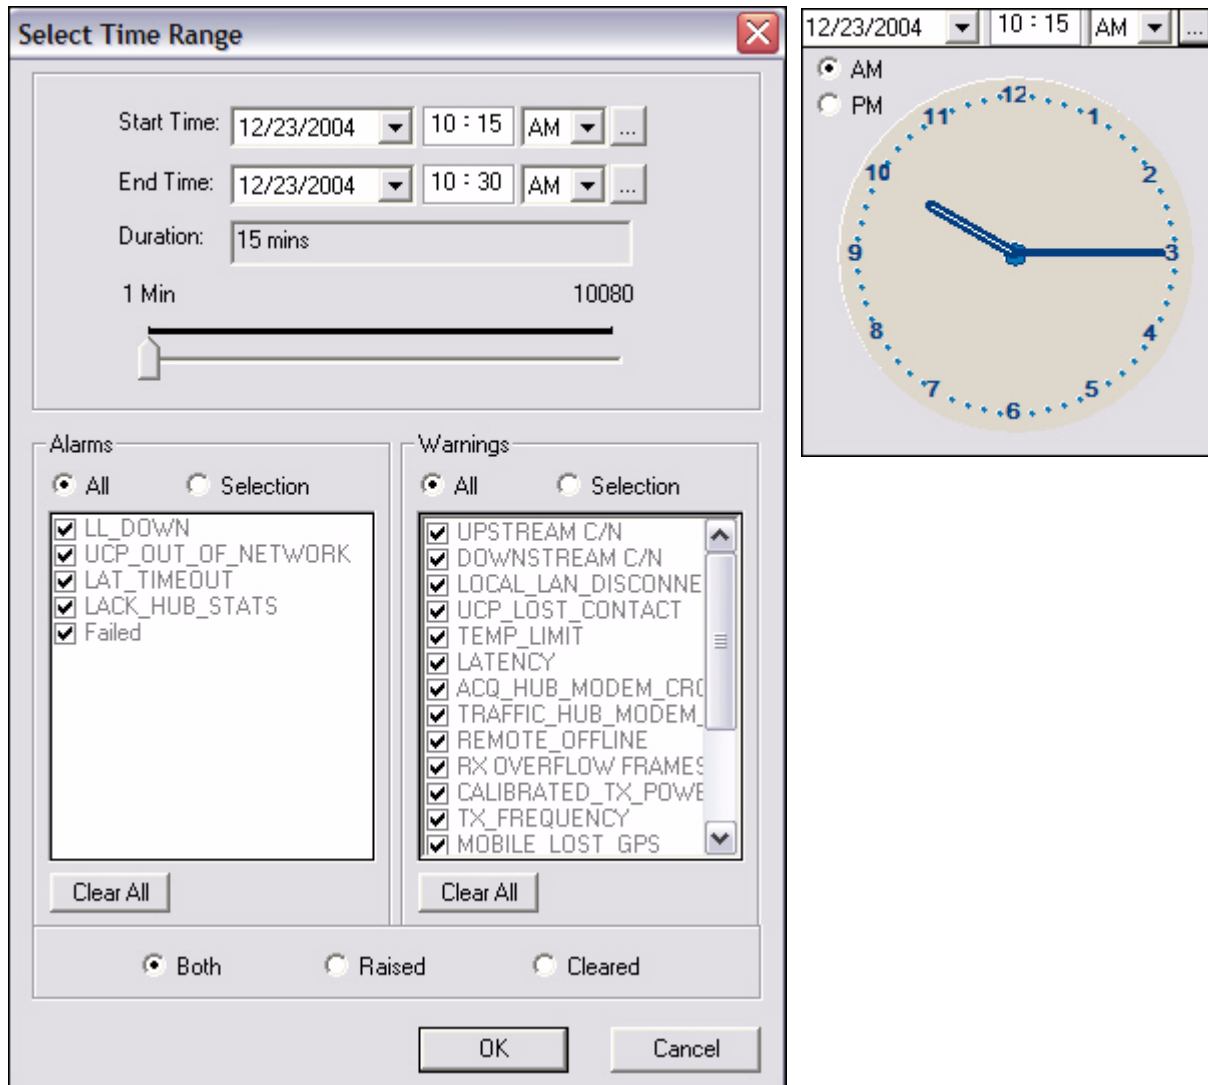

Figure 3-1: Conditions Time Range
- a If you click **Historical**, click **Time Range...** The **Select Time Range** dialog box appears (see Figure 3-1 for Conditions and Figure 3-2 for Events). If desired, click the ellipses next to the Start and End times to set the time via the graphical clock display. If you selected **Get Past**, see Step b.